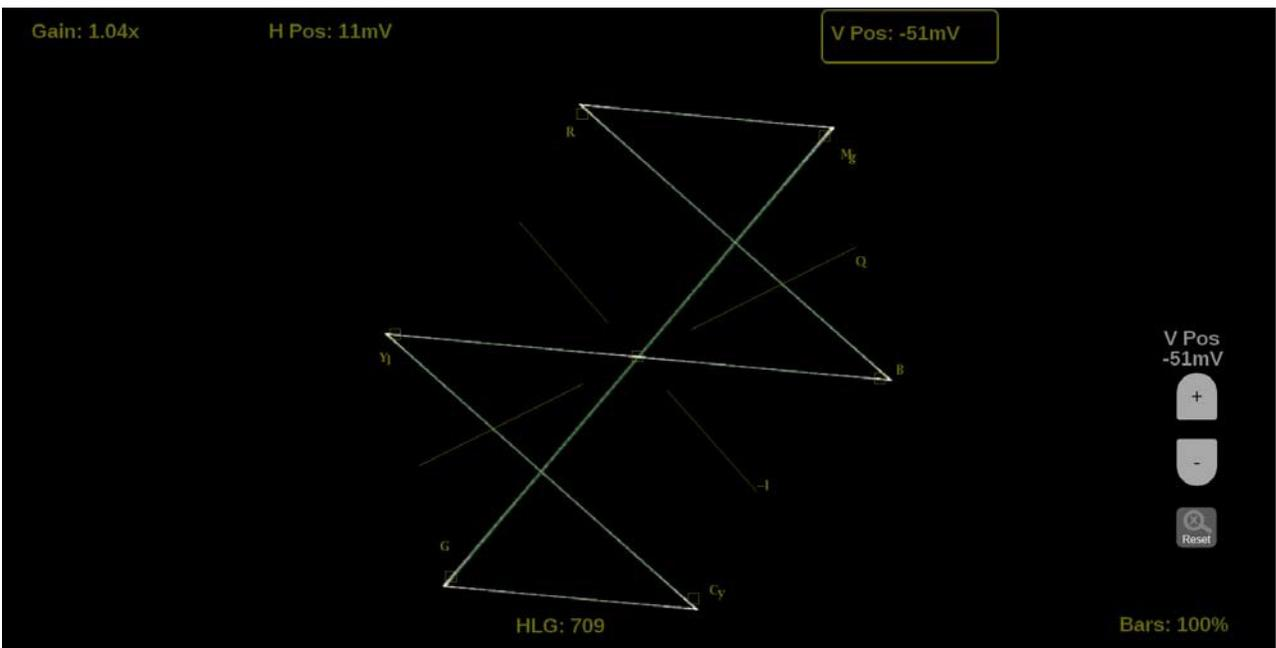

Figure 98: Vector on-screen tools – vertical position
2. Select the **V Pos** button to allow adjustment of the vertical trace. (See Figure 98.)